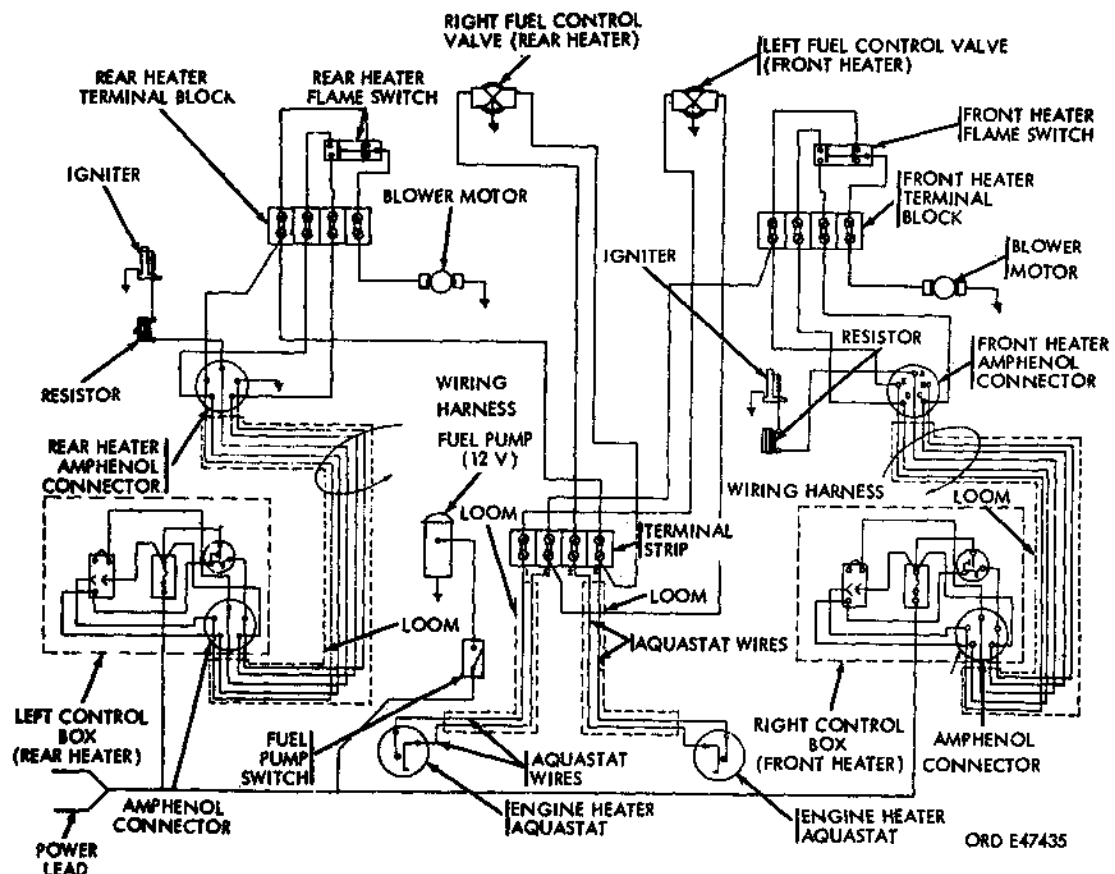

Figure 646. Wiring diagram
- (4) Remove the slotted locking link from right end of seat and return to stock.
- (5) Attach the leg extensions to the floor of the cab.
- (6) Place seat cushion in position in seat frame and insert pivot pins in place at each end of seat cushion. Secure seat cushion link at left end of the seat to the cushion brace.
i. Aquastat Wires (Fig. 646).
(1) Front heater aquastat wire.
(2) Electrical connections (fig. 646).